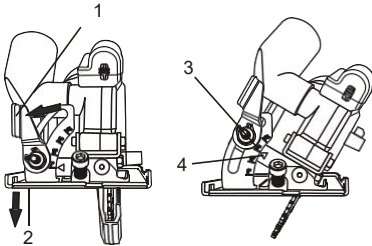

Fig. 3
1. Rotate the bevel angle locking lever (1) counter clockwise (Fig. 3).
2. Rotate the sole plate (2) to the desired angle.
2. Set the depth (Fig. 2) and set the bevel angle at 0° (Fig. 3).